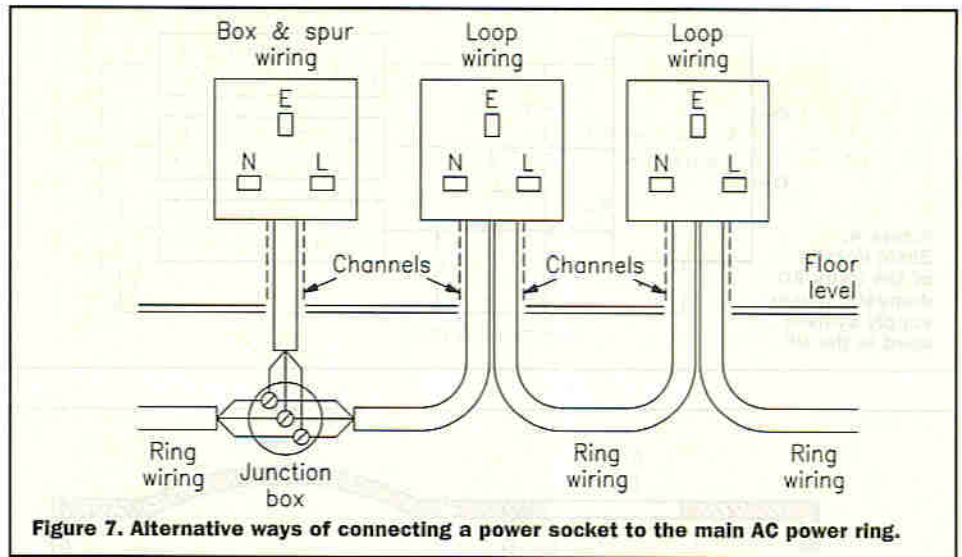
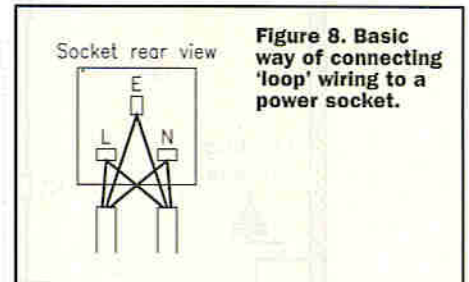

Figure 7. Alternative ways of connecting a power socket to the main AC power ring.
Figure 8. Basic way of connecting 'loop' wiring to a power socket.
Rewiring the power circuitry of an average house to modern standards is a technically fairly simple task, but involves much dirty and hard work. Normally, the power ring is laid below the floorboards, and is connected to the individual power sockets by using either 'loop' techniques, or 'box-and-spur' techniques, as shown in Figure 7.
Before starting such a rewire, plan very carefully the precise layout of each basic wiring ring, and the desired number and positions of all of its power sockets. Flush-type sockets are fitted into special metal boxes, which must (usually) be set into a wall or plaster, in which a channel must also be cut to accommodate the socket's power wiring, which is fed upwards from the sub-floor power ring. The socket can be loop-wired into the ring by (1) making a loop in the ring's wiring, (2) feeding the loop up to the socket, then (3) cutting the loop so that two effective lengths of 3-core cable are available; finally, (4) the tips of the six 'cores' can be bared and wired to the socket as shown in Figure 8. Note that this loop technique requires two lengths of cable to be buried in the socket's wall channel; the alternative 'box-and-spur' technique (Figure 7) requires only one length of cable to be so buried, the other end of the cable being connected into the ring via a sub-floor junction box.